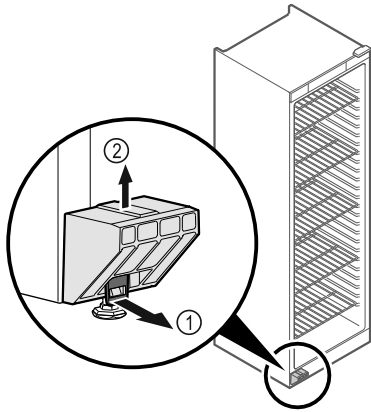

Fig. 6
- ▶ Pull tab Fig. 6 (1) forwards.
- ▶ Take off transport lock Fig. 6 (2) in upwards direction.